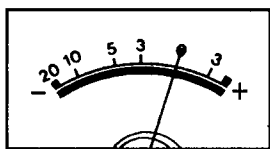

Figure E10
SPEC.	REFER TO FIG E10
1. Adjust VR3301 so that the needle of VIDEO LEVEL METER becomes at point as shown in Figure E10.